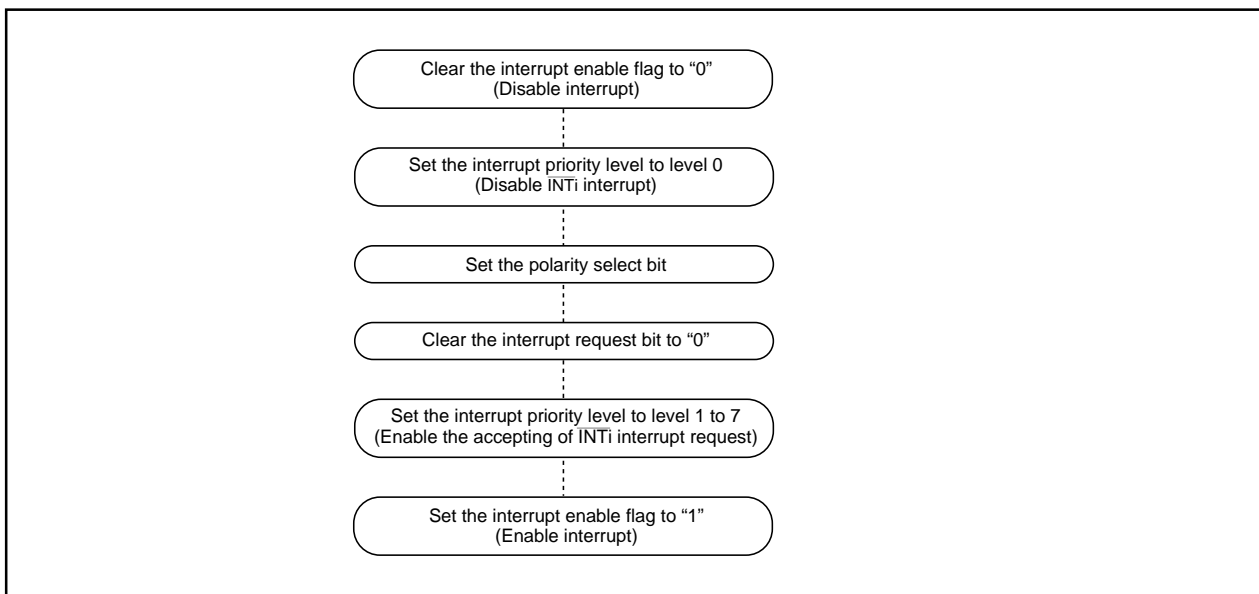

Figure 6-15. Switching condition of $\overline{\text{INT}}$ interrupt request
(3) The $\overline{\text{NMI}}$ interrupt
(4) External interrupt
- When the polarity of the $\overline{\text{INT0}}$ to $\overline{\text{INT5}}$ pins is changed, the interrupt request bit is sometimes set to "1". After changing the polarity, set the interrupt request bit to "0". Figure 6-15 shows the procedure for changing the $\overline{\text{INT}}$ interrupt generate factor.